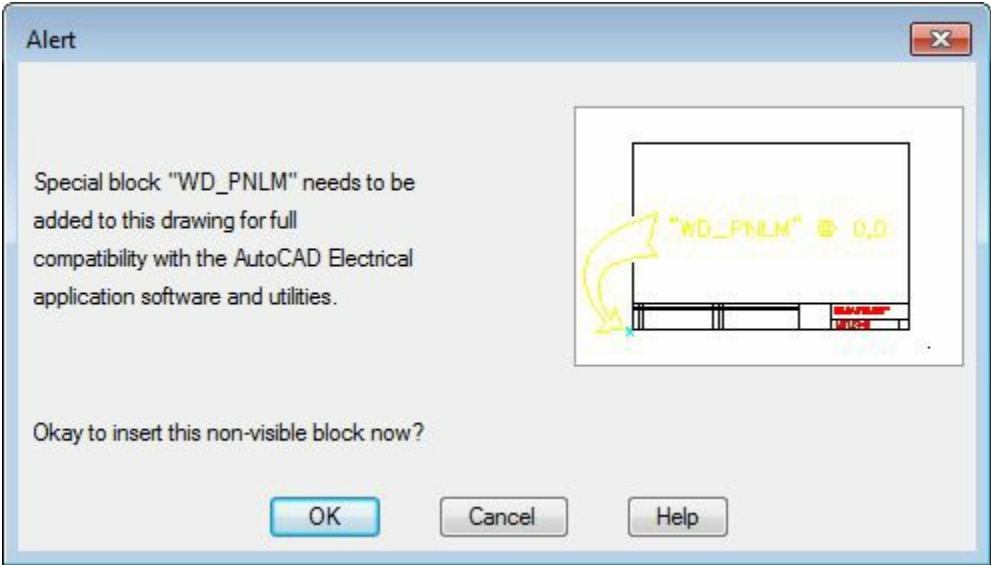

Figure-49. Alert dialog box
- Click on the **Icon Menu** button from the **Insert Component Footprints** drop-down in the **Insert Component Footprints** panel. For the first time, the **Alert** dialog box will be displayed; refer to Figure-49.